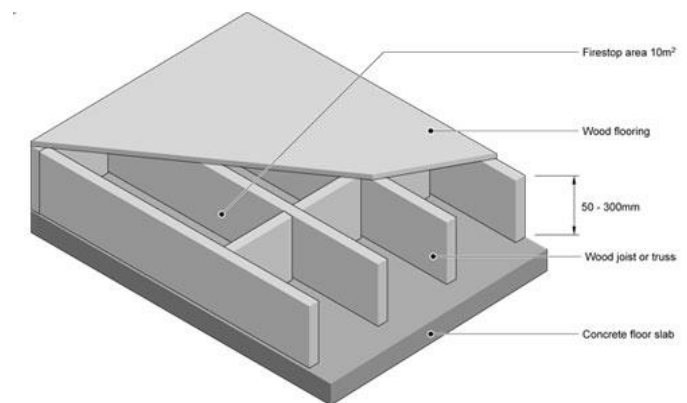

Figure 1. Raised wood floor
- the concealed spaces are fire blocked (as in Figure 1 below)